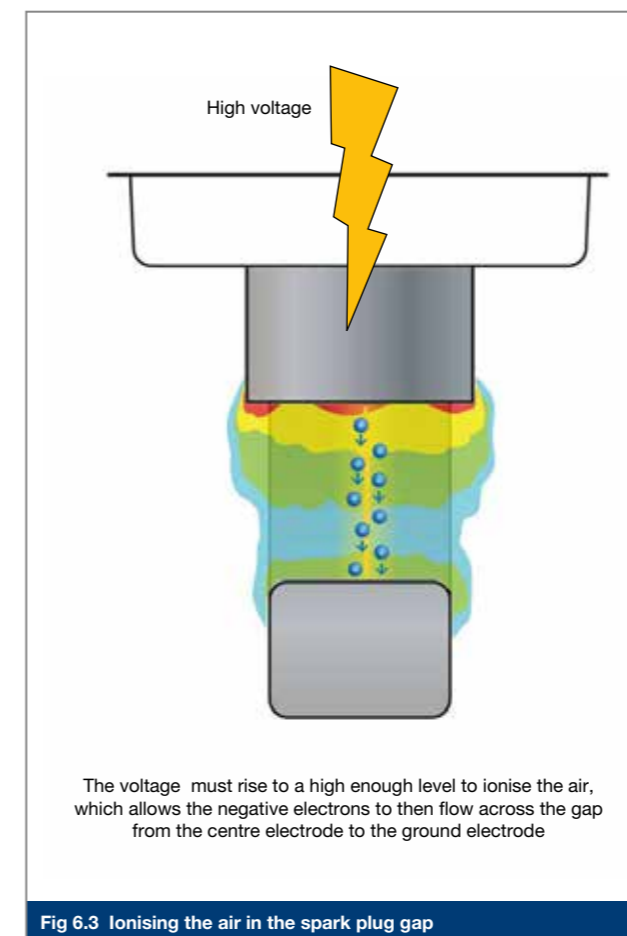

Fig 6.3 Ionising the air in the spark plug gap
**Ionisation is a complex process where a substance can be made to change its electrical properties. Air is one of many substances that are naturally electrical insulators because the atoms are electrically neutral and they do not provide a path for the flow of electricity. But by applying sufficient voltage, the electrical energy forces negatively charged particles (electrons) in the atoms to move between the atoms. The electrically neutral atoms are converted to electrically charged atoms that are known as 'ions'; therefore this conversion process is known as 'ionisation' (Fig 6.3).**